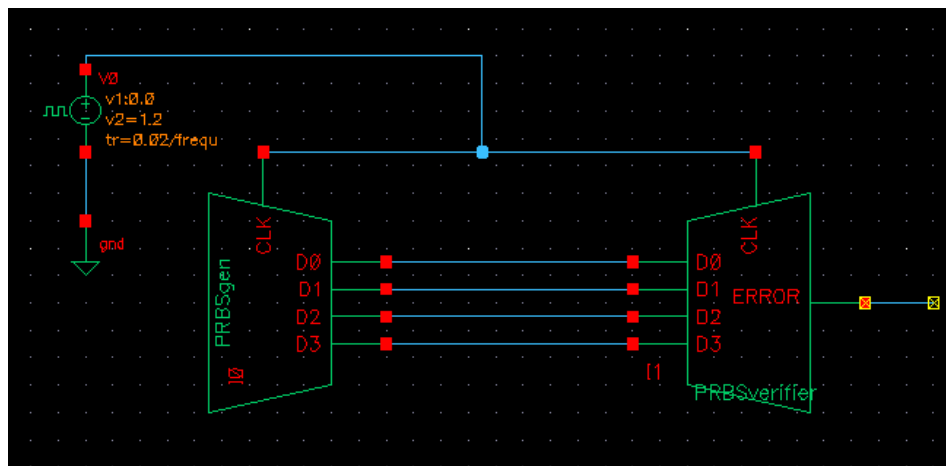
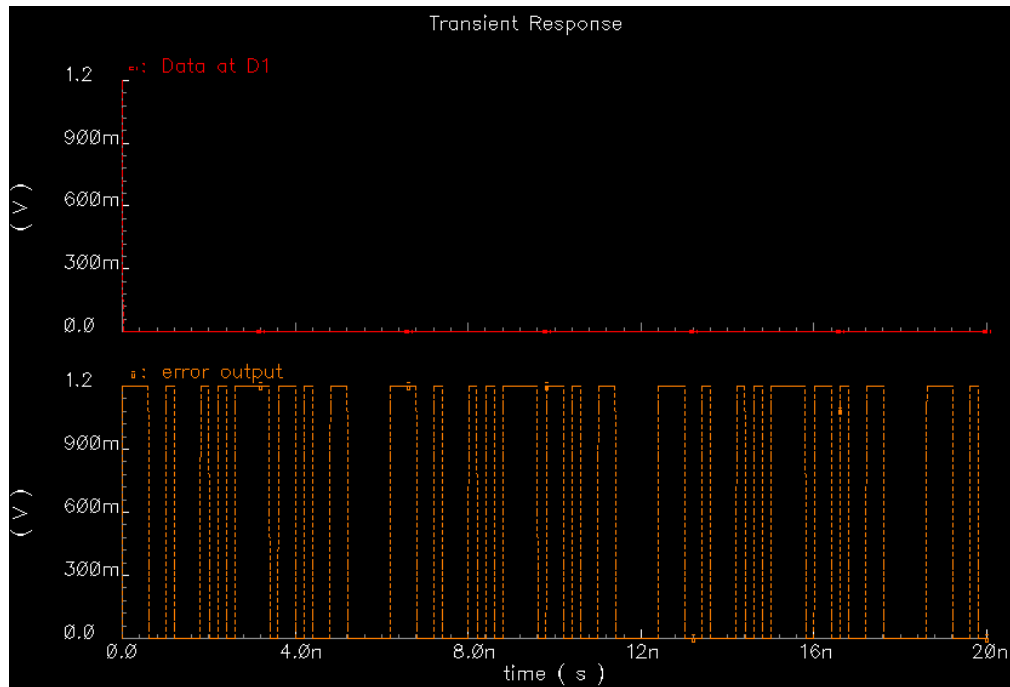

Figure 4 Schematic of a parallel PRBS testing circuit
Figure 5 Simulation results of uncorrupted data and error free output
- The schematic of a parallel PRBS testing circuit at 5Gb/s is shown in Figure 4. With perfect signal transmitting channel, the error output shows ZERO voltage as shown in Figure 5.